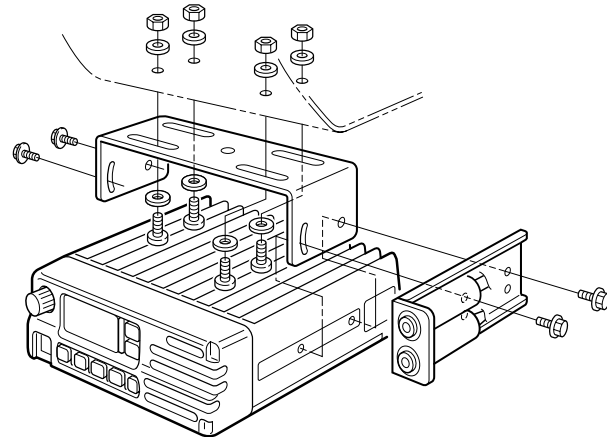

Fig. 3
- ④ Mount the phone plug attachment together with the mobile mounting bracket with 2 supplied screws. (Fig. 3)